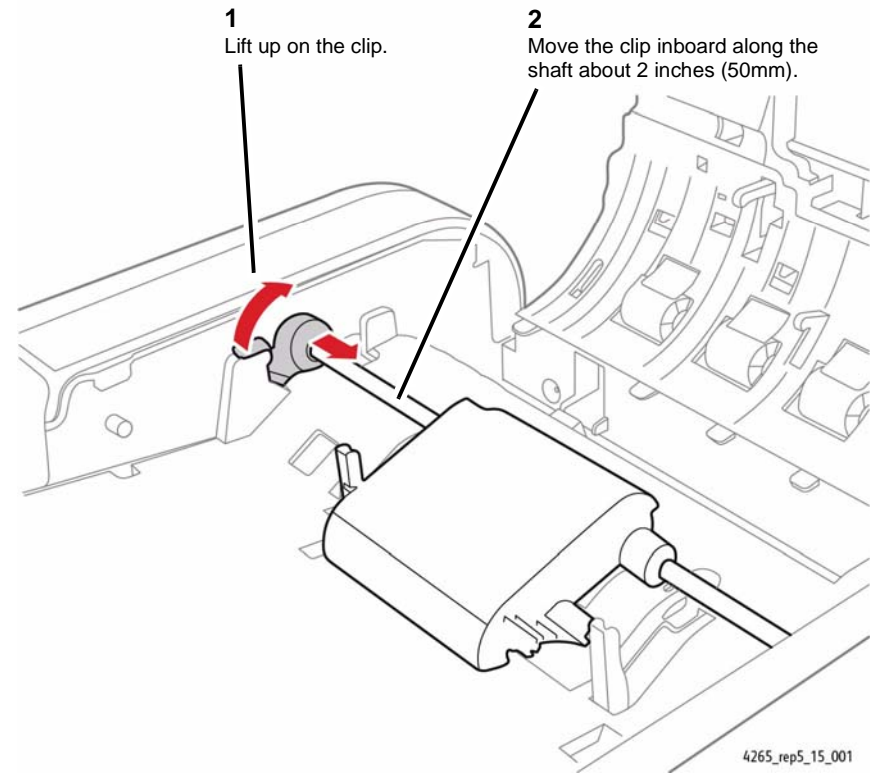

Figure 1 Dislocating the Retaining Clip
3. Dislocate the retaining clip (Figure 1).